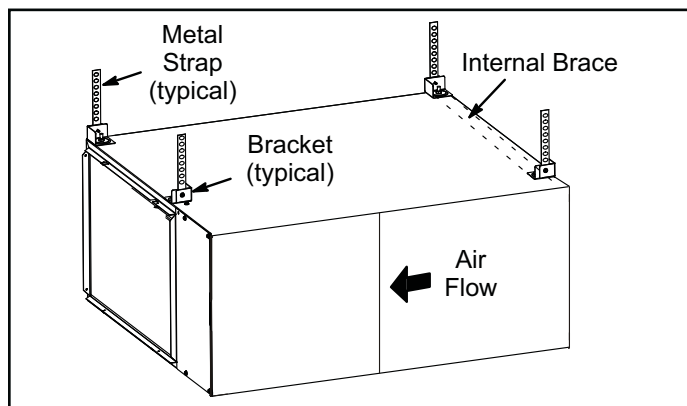
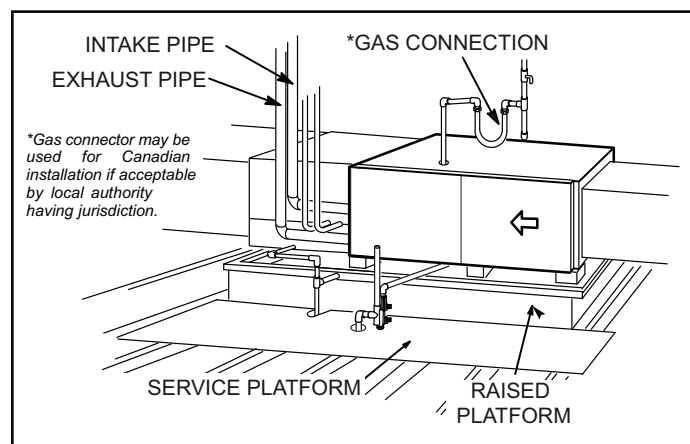

Figure 18. Horizontal Suspension
Figure 19. Platform Installation
This furnace may be installed in either an attic or a crawl space. Either suspend the furnace from roof rafters or floor joists, as shown in Figure 18, or install the furnace on a platform, as shown in Figure 19.
2. Construct a raised wooden frame and cover frame with a plywood sheet. If unit is installed above finished space, fabricate an auxiliary drain pan to be installed under unit. Set unit in drain pan as shown in Figure 19. Leave 8 inches for service clearance below unit for condensate trap.